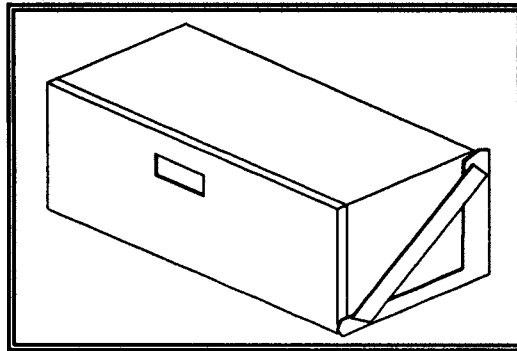

**FIG. 3**
5. Install the roller [Part No. 10H12] between the brackets with the roller axle [Part No. 10H31] and the fasteners provided (See Fig. 3). Grease the rollers before use.